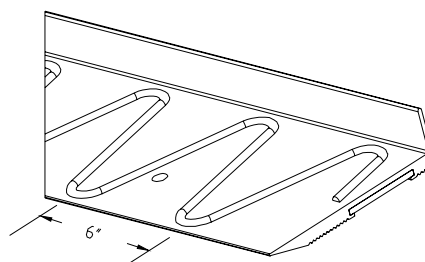

Figure 3
STEP 4. Apply a minimum 1/8" bead of construction adhesive (by others, Balco, Inc. recommends Bostik 1100 FS or equal) to the underside of the stair nosing (Figure 3). Apply the adhesive to the full length of the nosing in a nominal 6" wide (crest to crest) zigzag pattern from front to back of the nosing.